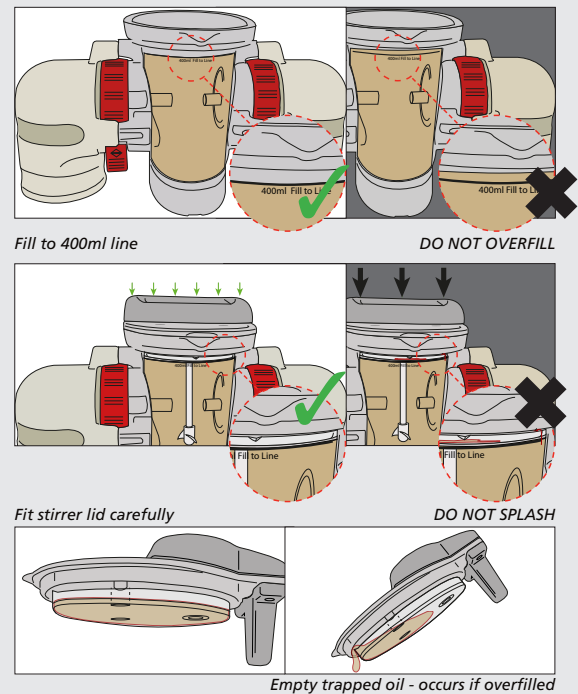

Fig 7: Filling the test vessel
- Fill the test vessel to the 400 ml fill line, DO NOT OVERFILL (see figure 7)